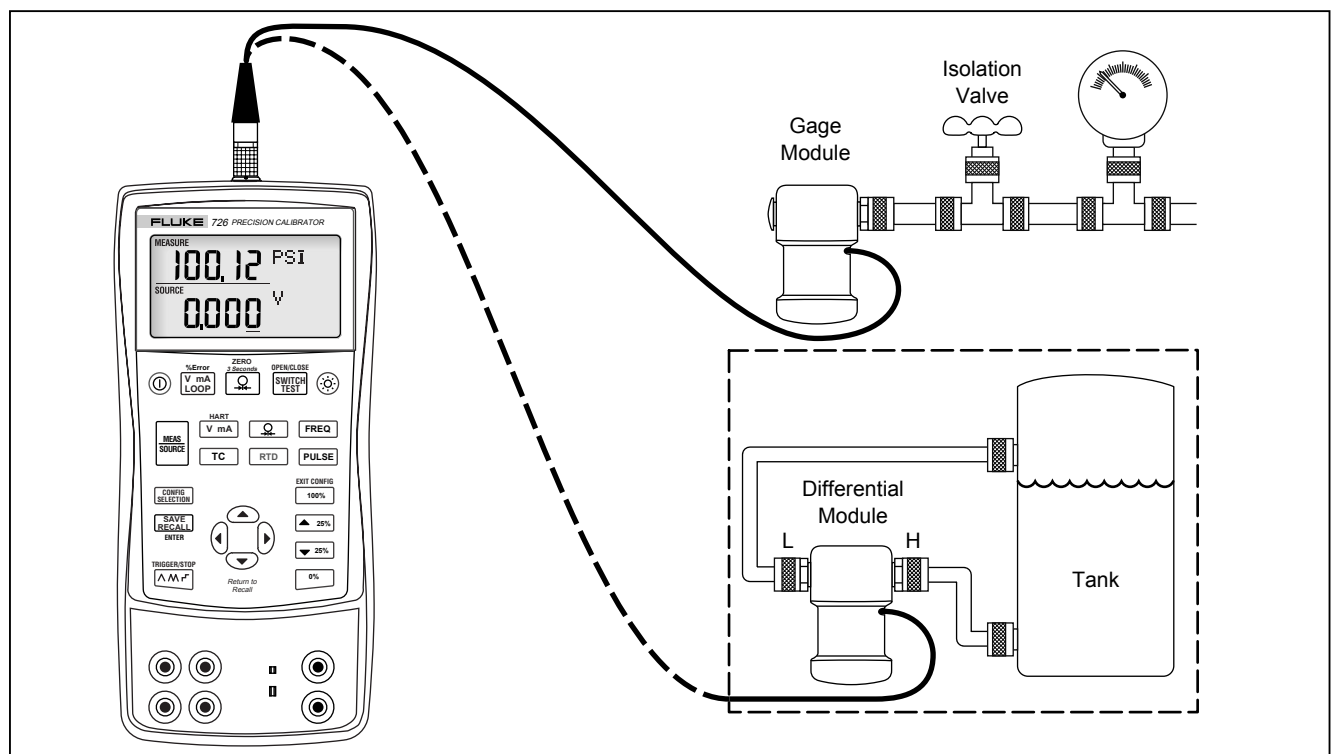

Figure 13. Connections for Measuring Pressure
1. Connect a pressure module to the Calibrator as shown in Figure 13. The threads on the pressure modules accept standard 1/4 NPT pipe fittings. Use the supplied 1/4 NPT to 1/4 ISO adapter if necessary.